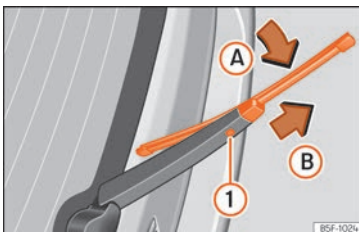

Fig. 86 Changing the rear wiper blade
- Turn the blade slightly » Fig. 86 (arrow A).
- Hold down the release button ① while gently pulling the blade in the direction of arrow B.